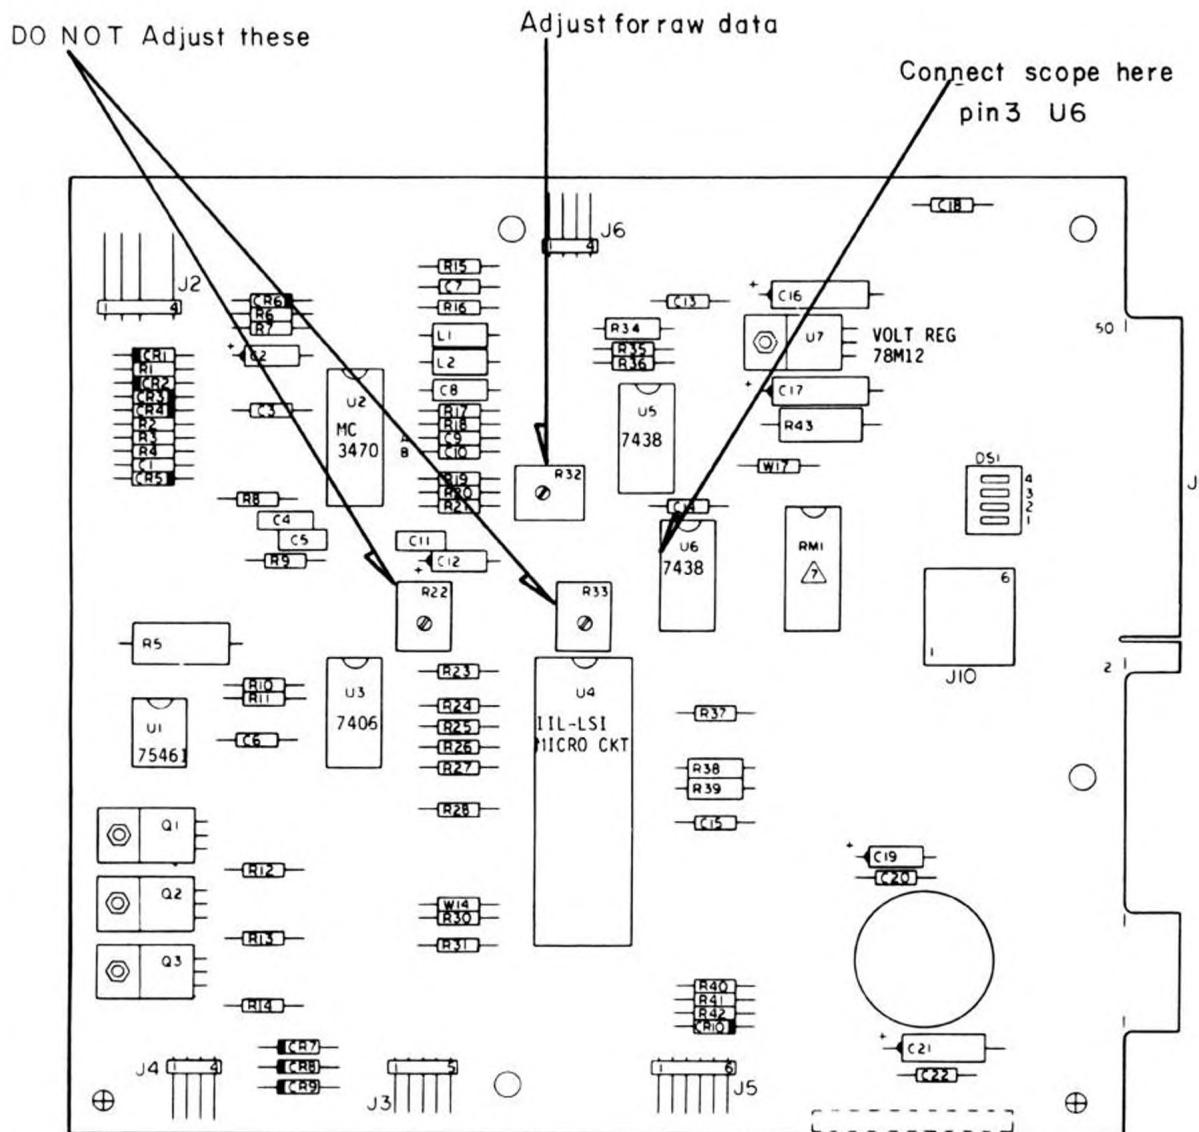

Figure 1
**DISCUSSION:** The LSI board has three adjustments R22, R23, and R32 (Refer to Figure 1). R22 and R33 are for adjusting the oscillator and write current to the head. These adjustments ARE NOT to be done in the field. The reason for this is because a test jig is needed, excessive time is required to complete the adjustments, and there is a high probability of damaging the head or the LSI chip. Once these adjustments have been done by the factory there is no reason for them to change unless the LSI chip fails. R32 controls the read symmetry (raw data) adjustment and it should be adjusted in the field.